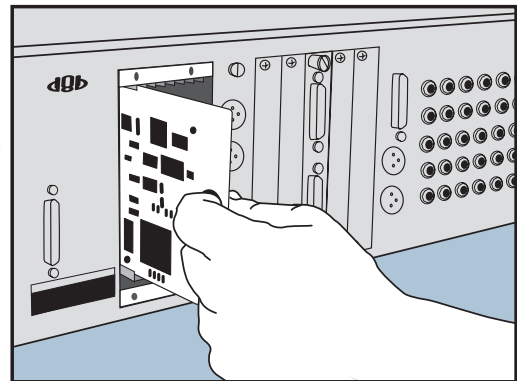

Figure F-4. FX Card Installation
2. With your finger in the hole on the FX card (and the components on the circuit board facing to the left), push the card firmly into the white connector slots so it fits snugly. See Figure F-4. Do not touch any of the circuit board components or solder joints.